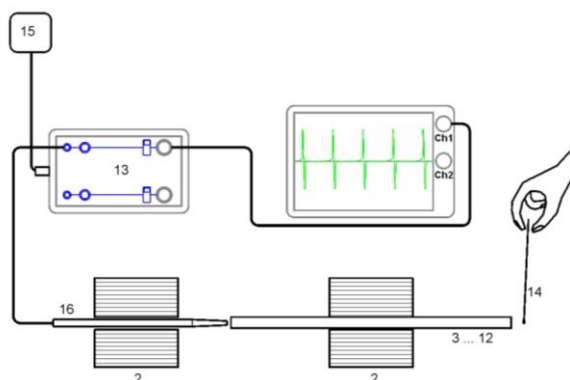

Fig. 1 Experiment set-up
- Lay a test rod on one mat and a microphone probe on another (Fig. 1).
- Use the beater to strike the rod on the opposite end to the microphone probe (Fig. 1).